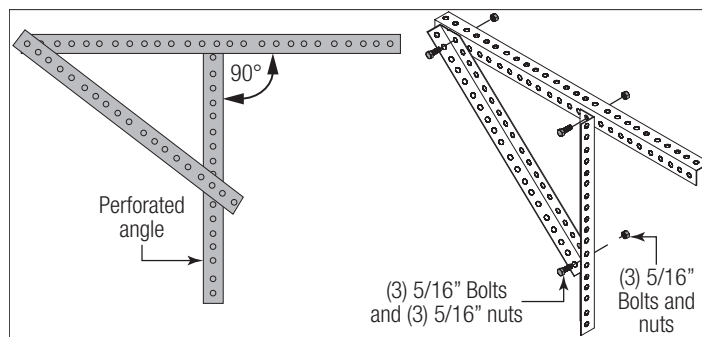

Figure 38
**IN THE EVENT THE SPRING(S) WERE OVER-WOUND, HOLD THE DOOR DOWN FIRMLY AND CAUTIOUSLY REMOVE LOCKING PLIERS FROM VERTICAL TRACKS TO PREVENT IT FROM RISING UNEXPECTEDLY.**
**See Figures 38, 39, 40 and 41 for the following steps.**